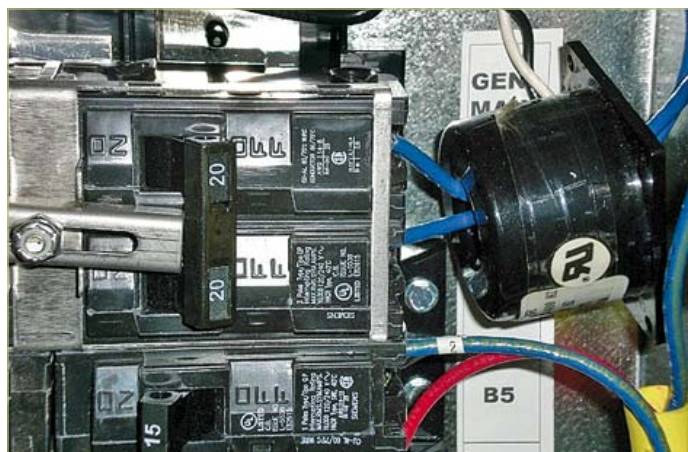

Figure 1. CT installation in the sub-panel.
I purchased a 150:1 ratio current transformer (CT) on eBay that had the appropriate UL/CE qualifications (it is very important that the CT meets all applicable local codes). My electrician routed both blue wires that feed the eight circuit breakers in the sub-panel through the centre of the CT in an additive manner (see Figure 1). This is the one-turn CT primary winding. The CT secondary winding divides the primary current by the turns ratio, in this case by 150. The CT is rated for 5 VA, so in theory it can produce a secondary voltage of about 31 V_{RMS} (200 Ω load) with the maximum 23.33 amp surge load rating of our generator without saturation. This is more than enough for our remote load meter.